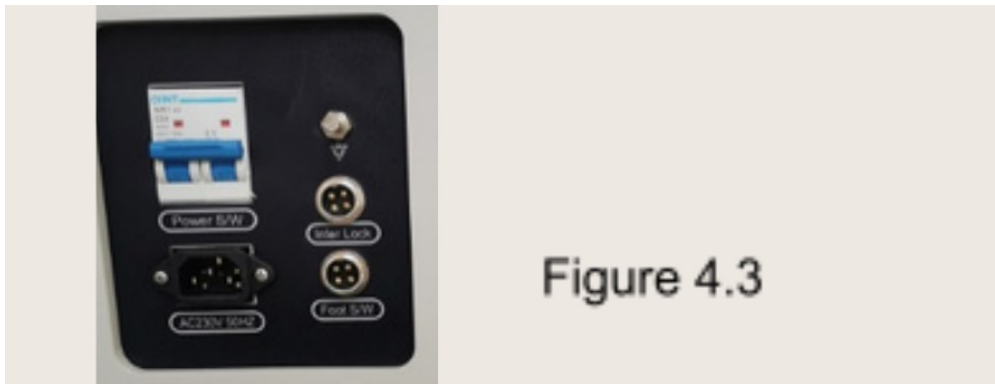

Figure 4.3
- 5) Attach the power cord, the footswitch cord, and the interlock cord (Ref. Figure 4.3).